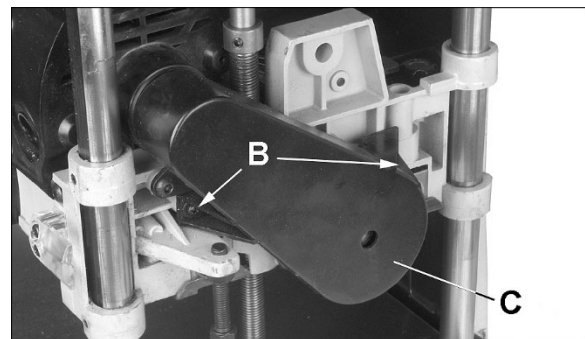

Figure 10-5: removing belt guard
5. Remove two screws (B, Figure 10-5) with Phillips screwdriver, and remove belt guard (C).